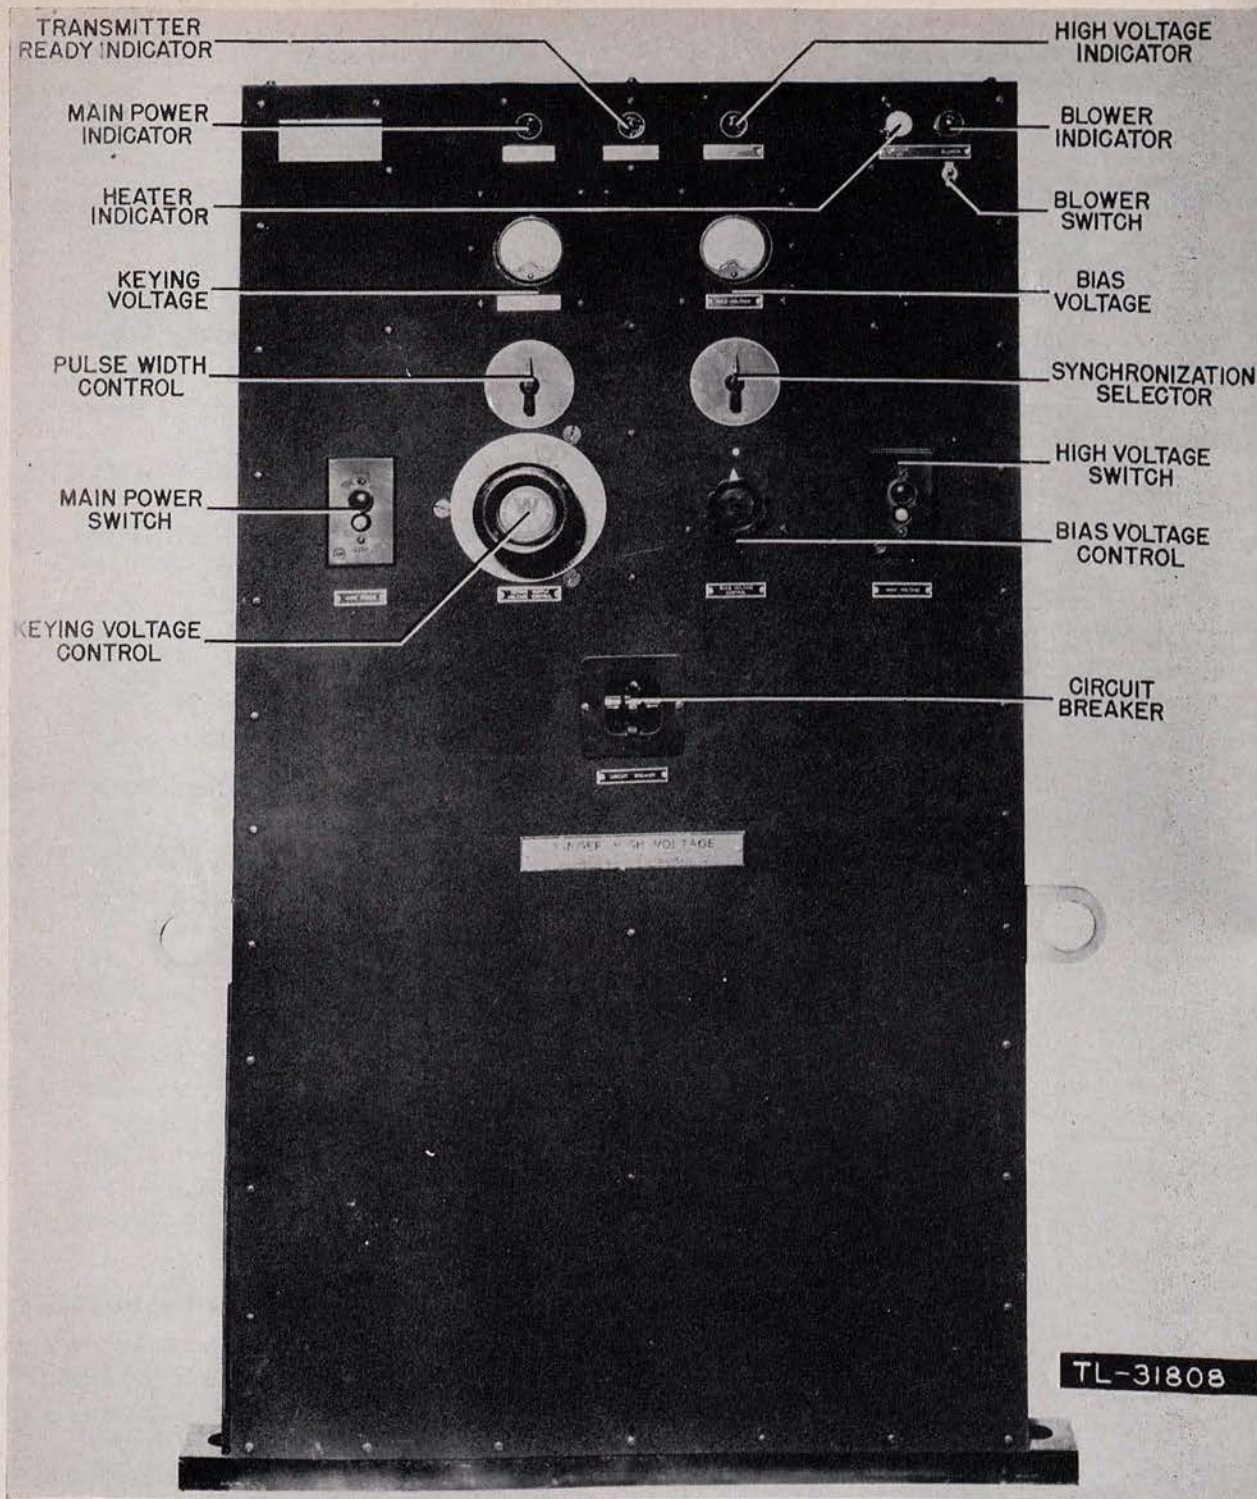

Figure 31. Keyer BC-758-A, showing controls.
b. METER READINGS ON GENERATOR POWER PANEL. (1) *Line voltage*. Phase 1, 2, and 3: 118 volts (± 2 volts).
53. Press Keyer Main Power Switch 51-1 On (fig. 31)